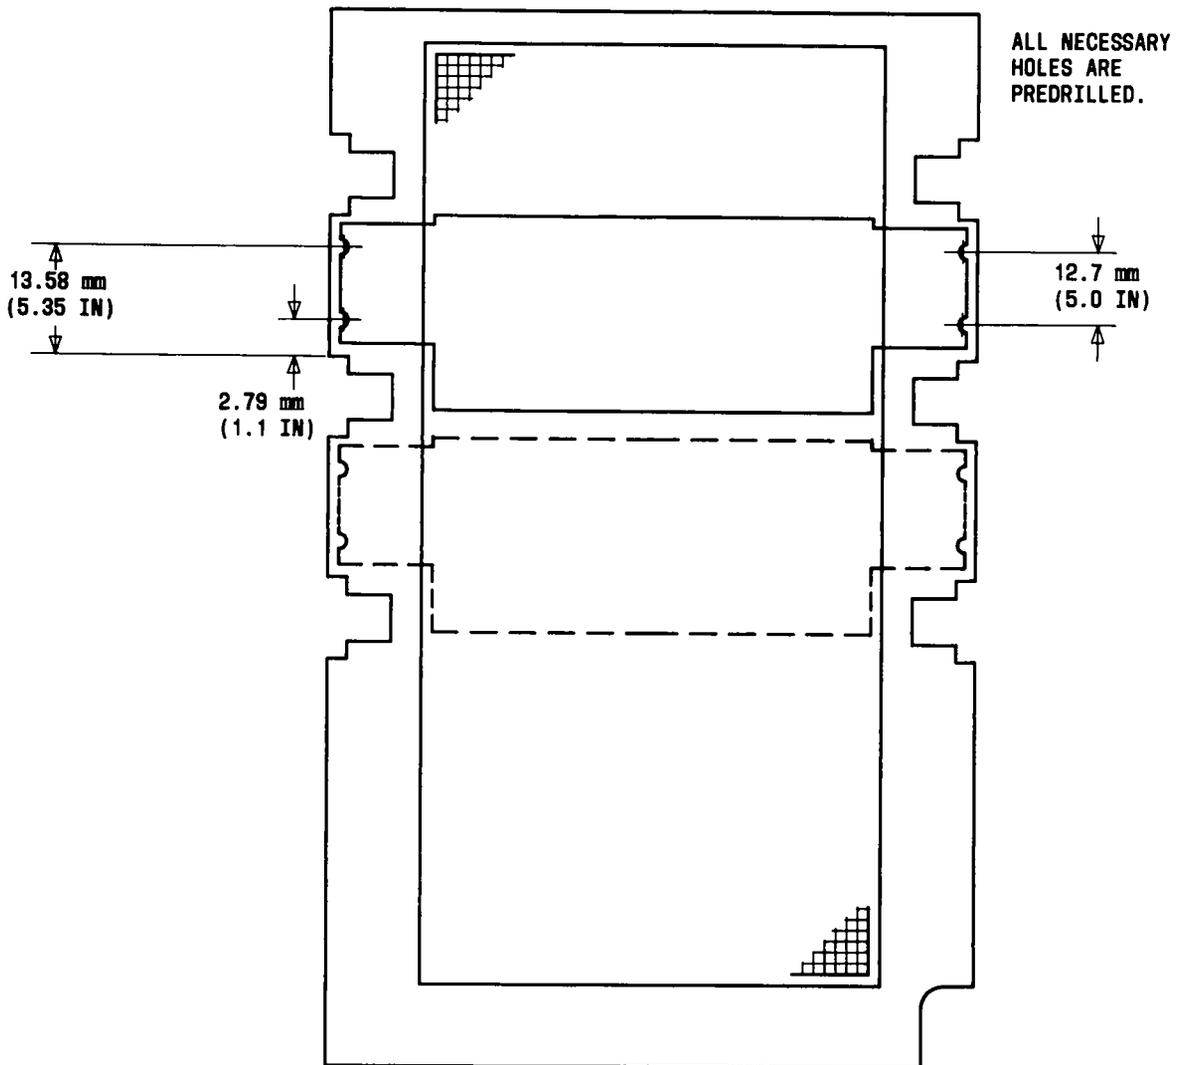

Fig. 4—Electromagnetic Interference (EMI) Filter Assemblies Mounted on Rear Panel of DIMENSION PRELUDE PBX Cabinets
2.18 Standard treatment for noise in cable pairs may be obtained by installing an electromagnetic interference (EMI) filter assembly per ED-1E403. Mounting holes for the filter assembly are predrilled (Fig. 4). The mounting assembly is capable of containing ten 1513A filter assemblies. A Group 3 assembly consists of one EMI filter mounting panel and one filter cover. The EMI filter assemblies (Group 2) must be added to the Group 3 assembly. Each Group 2 filter assembly consists of one EMI filter assembly and one connecting cable (ED-1E367, Group 935).